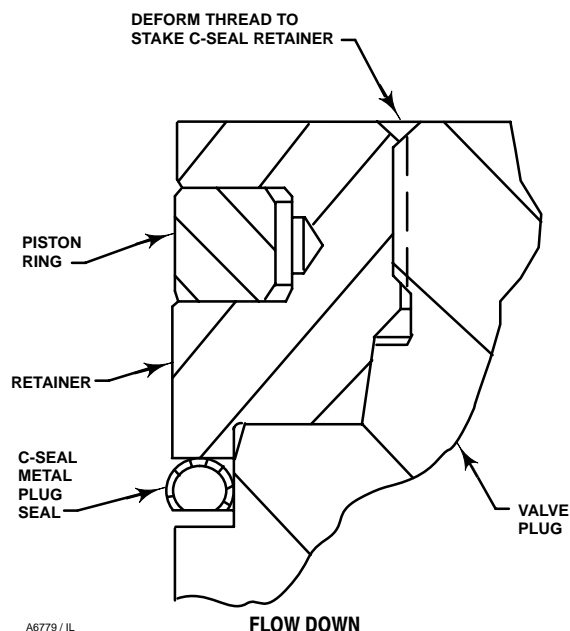

Figure 13. Stake the Threads of the C-seal Retainer
5. Using an appropriate tool such as a center punch, stake the threads on top of the plug in one place (figure 13) to secure the C-seal retainer.
3. Locate the staked thread on top of the valve plug (figure 13). The staked thread secures the retainer. Use a drill with a 0.125 inch bit to drill out the staked area of the thread. Drill approximately 1/8-inch into the metal to remove the staking.